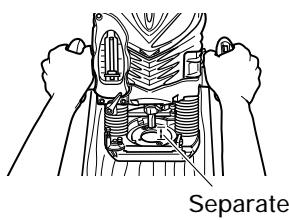

Fig. 19
- (1) As shown in Fig. 19, remove the bit from the work pieces and press the switch lever up to the ON position. Do not start cutting operation until the bit has reached full rotating speed.